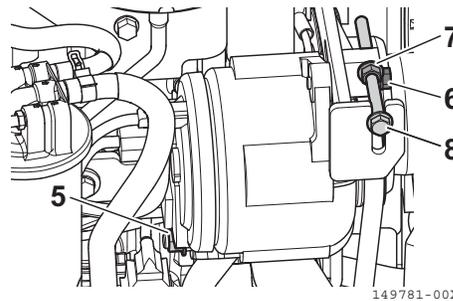

Fig. 8-55
- 1. Loosen the generator mounting bolts (Fig. 8-55, 5) and (Fig. 8-55, 6).
- 2. Loosen the adjuster set nut (Fig. 8-55, 7).
- 3. Turning the adjuster bolt (Fig. 8-55, 8) clockwise tensions the belt, and turning it counterclockwise loosens the belt.
- 4. Adjust the belt to the adequate tension, and tighten the generator mounting bolts (Fig. 8-55, 5) and (Fig. 8-55, 6).
- 5. Tighten the adjuster set nut (Fig. 8-55, 7).